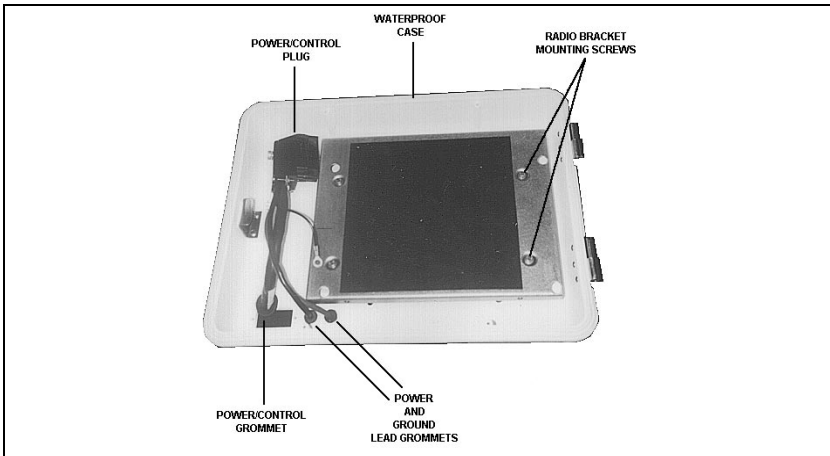

Figure 9. Power/Control Cable Installation
1. Remove the two screws securing the cover plate to the cable entrance hole in the bottom of the weatherproof box. Insert the radio control cable through the cable entrance hole, leaving the radio connector inside the weatherproof case (see Figure 9).